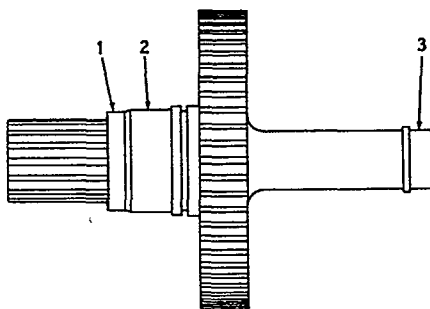
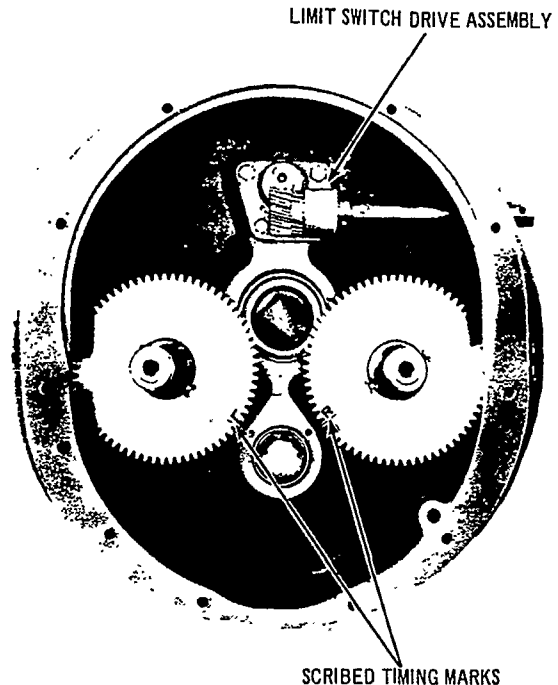

Figure 5-14. Drum Pinion Shaft Assembly, R.H. Shown
Figure 5-15. Gear Case Assembly Timing Marks
1. Lay the drum hanger down on its back. Subassemble the motor bracket with drum bearing (23) and oil seal (22). Pack the bearing half full of multi-purpose grease. Install oil seal (24). Press bearing (25) onto coupling (2). Install bearing and coupling in motor bracket and secure with snap ring (3). If the hoist is a standard headroom model, bolt the motor bracket directly to the drum hanger (Figure 5-15). If the hoist is a low headroom model, bolt the motor bracket to the spacer hanger, and then the two parts to the drum hanger.
5. Shrink bearing inner race (2, Figure 5-14), shoulder first, on the right and left hand drum pinion shafts until tight against the shoulder of the shaft. Shrink on ring spacer (1) tight against the inner race. Install inner race (3) on the opposite end of shaft. Install the right and left hand drum pinion shaft assemblies in the gear case. Do this carefully so the oil seals in the gear case are not damaged. **THE MATCH MARKS ON THE GEAR CASE AND ON THE INTERMEDIATE GEARS MUST BE IN PERFECT ALIGNMENT** as shown in Figure 5-15. Note that left and right gears are identified by the letters L and R.